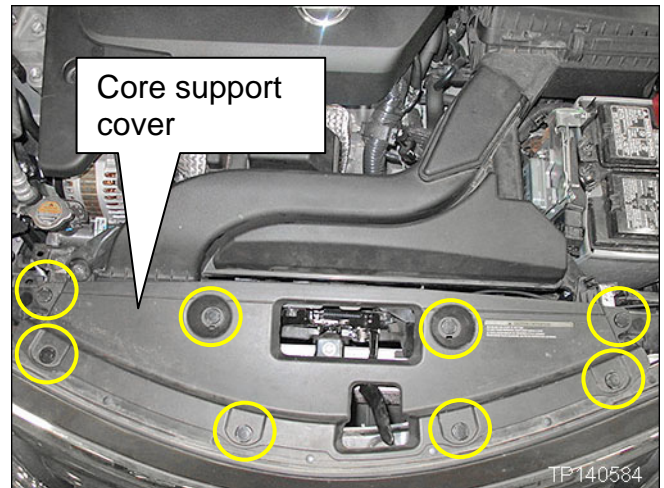

Figure 1
- Cover is held on with 8 clips shown in Figure 1.